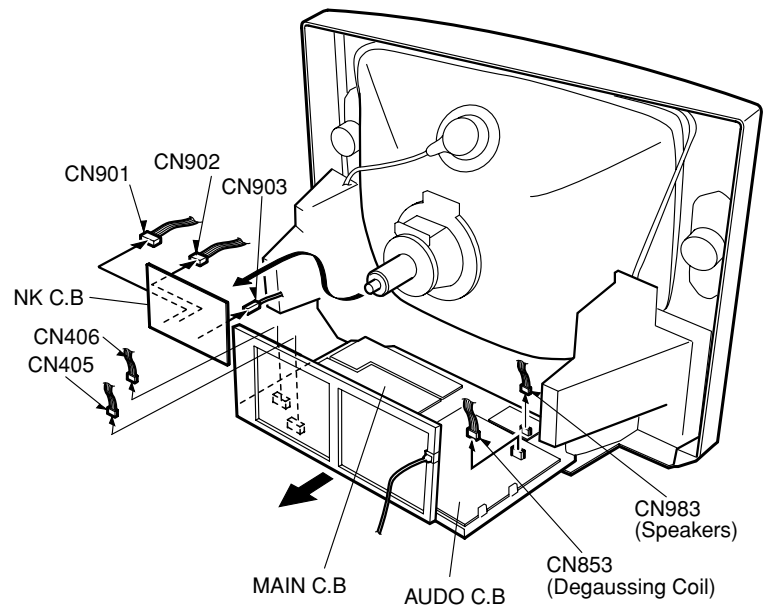

Figure 4-1
(See Figure 4-1)
- (1) Remove connector (CN405, CN406).
- (2) Remove connector (CN983).
- (3) Remove connector (CN853).
- (4) Pull out the MAIN, AUDIO C.B. in the direction of the arrow (See Figure 4-1).